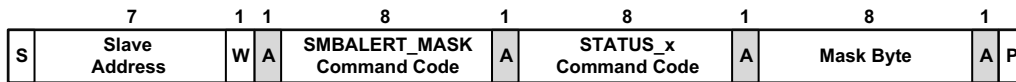
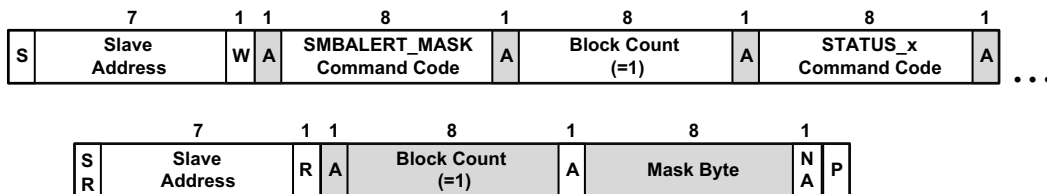

Figure 51. SMBALERT\_MASK Command Packet Format
Figure 52. Retrieving the SMBALERT\_MASK Setting for a Given Status Register
The command format used to block a status bit or bits from causing the SMBALERT# signal to be asserted is shown in Figure 51 and Figure 52. The bits in the mask byte align with the bits in the corresponding status register. For example, if the STATUS\_TEMPERATURE command code is sent with the mask byte 01000000b, an over-temperature warning condition would be blocked from asserting SMBALERT#.
**Note:** Figure 51 shows the command format used by the host to determine the SMBALERT\_MASK setting for a given status register.